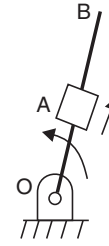

FIGURE 9.27
26. A link OB is rotating with a constant angular velocity of 2 rad/s in counter clockwise direction and a block is sliding radially outward on it with a uniform velocity of 0.75 m/s with respect to the rod, as shown in Fig. 9.27. If $OA = 1 \text{ m}$, the magnitude of the absolute acceleration of the block at location A in m/s^2 is